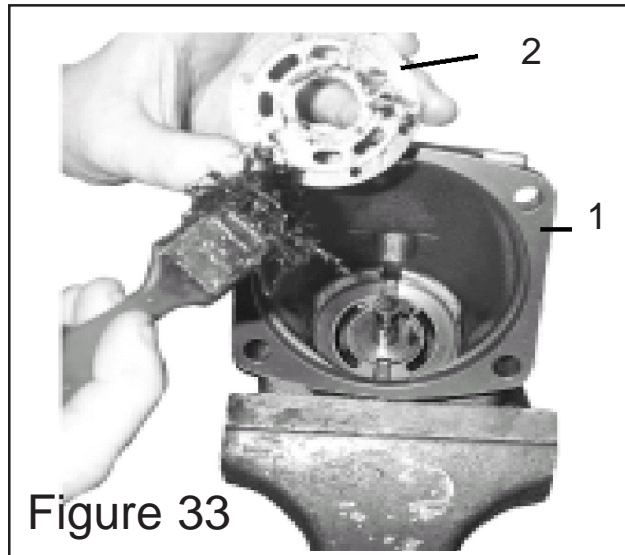
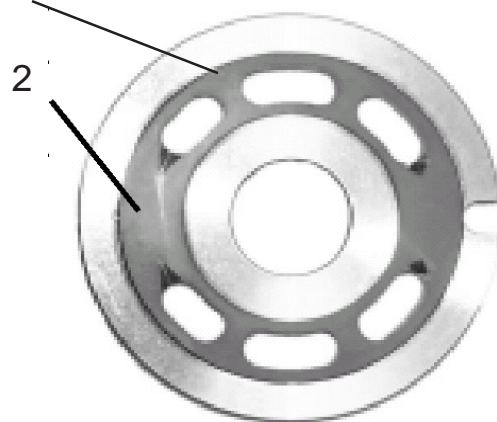

Figure 33
Figure 34
16. Install Valve Plate. Coat Valve plate (item 2) with a coat of grease (See Figure 33) will be to hold valve plate in housing during assembly. With the Barrel Hosing assembly in vise install the valve plate into it. This plate must be installed with the correct side down and the correct side up. (See Figure 34). Note the location of the notch in OD of valve plate.